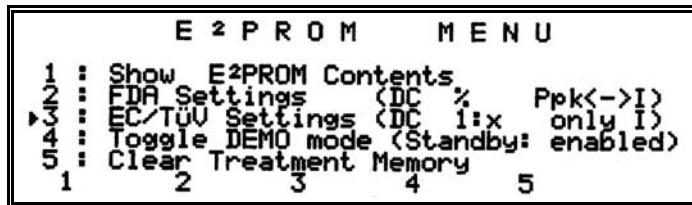

Figure 4.3, E2PROM menu
If you choose item 4 of the service menu, *E2PROM menu, FDA/EC/Standby toggle*, you will get another menu, the E2PROM MENU, see figure 4.3.